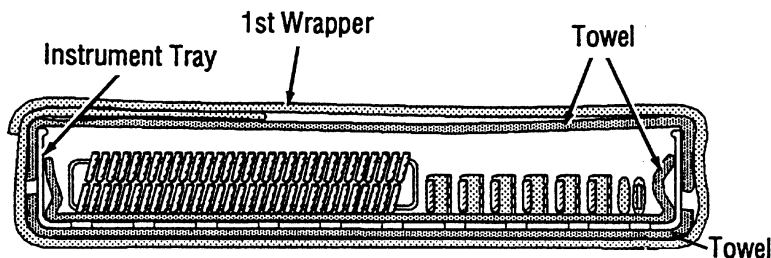

Figure 8.
- 1. Before applying the flat wrappers, consider placing an absorbent surgical towel between the bottom of the tray and the wrapper (Figure 8).
- b. An absorbent surgical towel may be placed on top of the set before wrapping if necessary. The top towel should contact the top surface of the instruments to absorb moisture. Figure 8 shows the wrong way to apply the top towel.